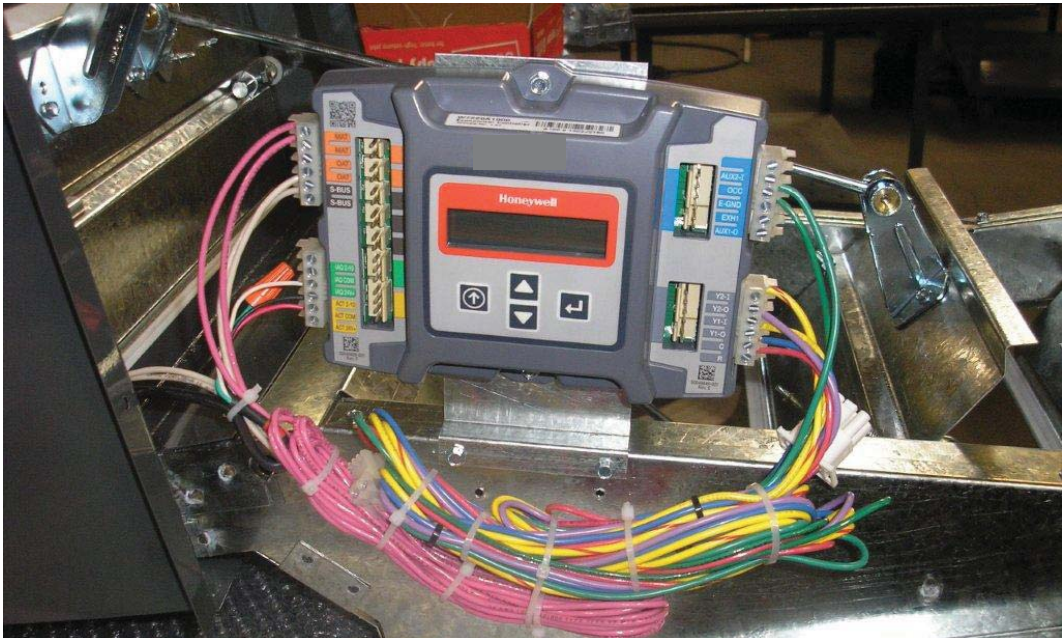

Figure 2
8. Feed the pink mixed air sensor wires to the evaporator section of the unit and secure using the bracket provide. Connect the wires to the sensor. (Figure 2)